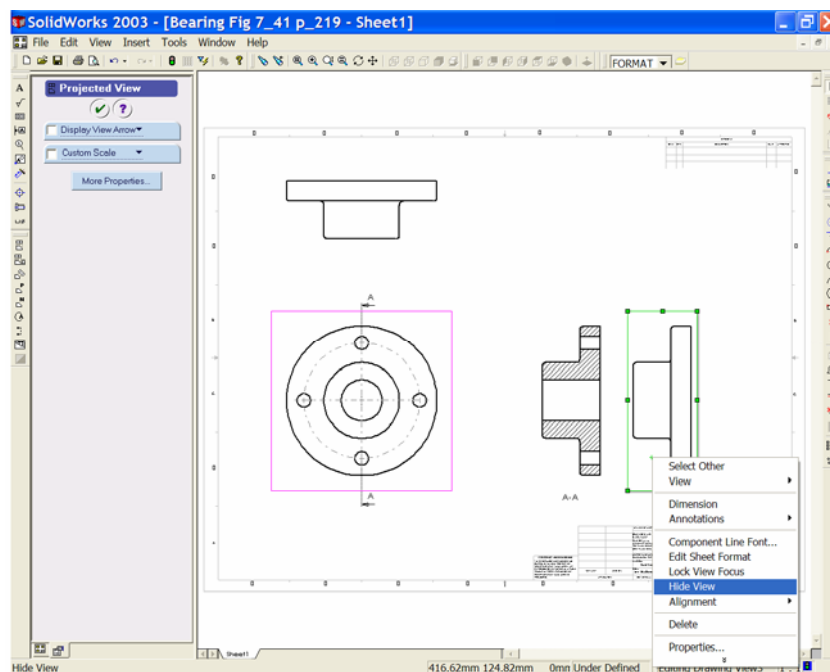

Figure 8
- The Standard Right End Elevation is not required and may be hidden. Right click inside the border of this view and choose '**Hide View**'. See Figure 8.